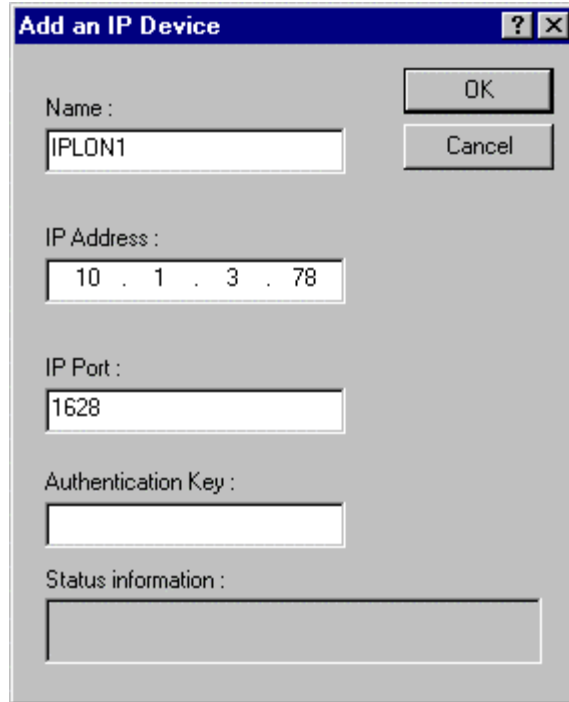

Figure 7-2 Add LONWORKS/IP Device Dialog
4. Click the **Add** button to add a LONWORKS/IP interface to the PC. The dialog shown in Figure 7-2 appears: